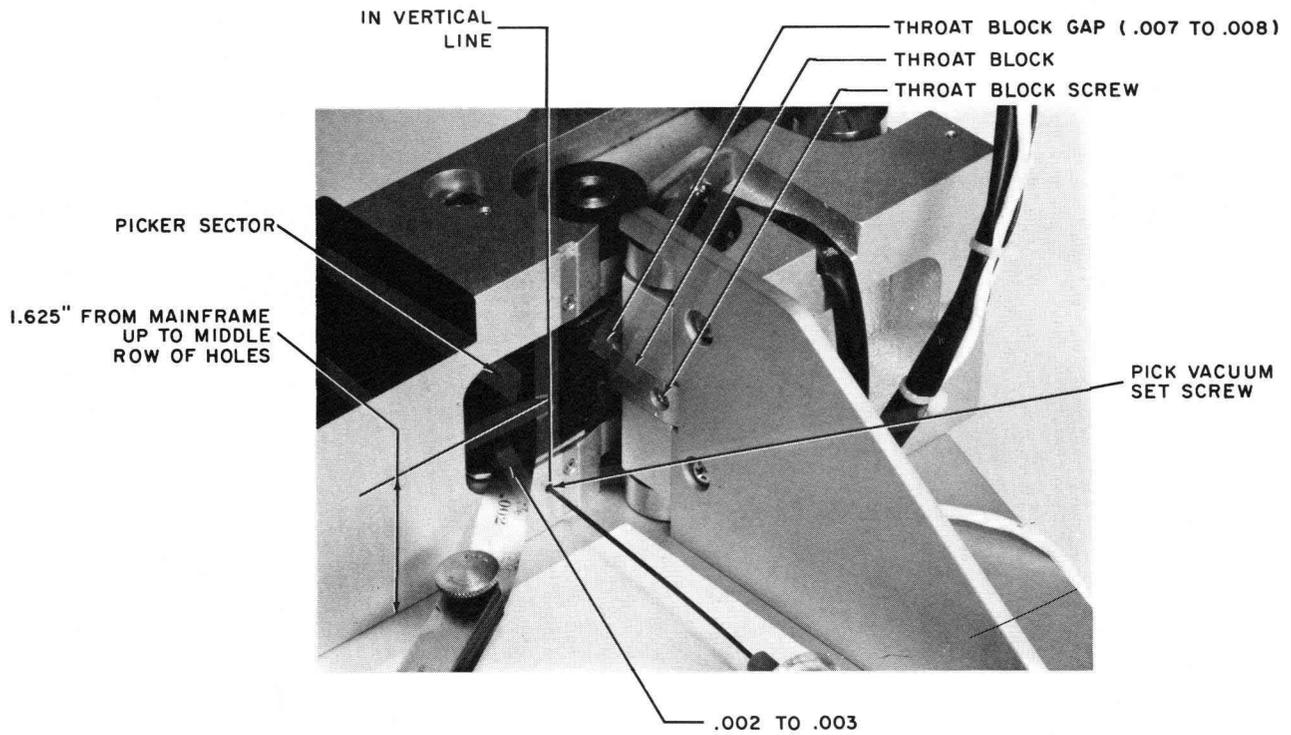

Figure 23. Picker Sector Adjustment
3. Adjust picker stop so that the rear edge of the last row of holes in picker sector is in a vertical line with the pick vacuum set screws' centerline, Figure 23. Tighten the two socket head screws holding the picker stop.
7. Using a Phillips screwdriver, LOOSEN the throat block screw and adjust throat block for .007" to .008" clearance between picker sector and throat block. Figure 23. Tighten throat block screw and check reader for proper pick action.